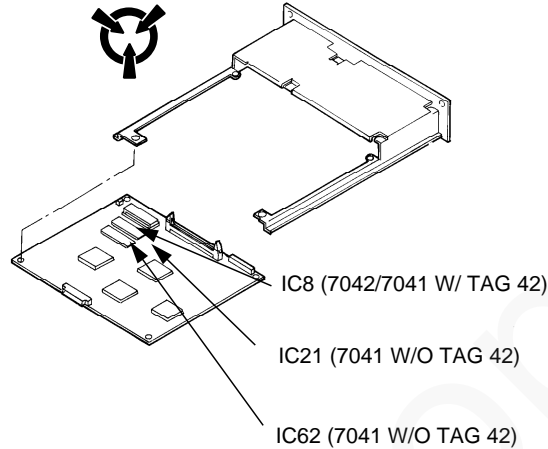

Figure 2. EPROMs
6. Remove the EPROMs (figure 2).